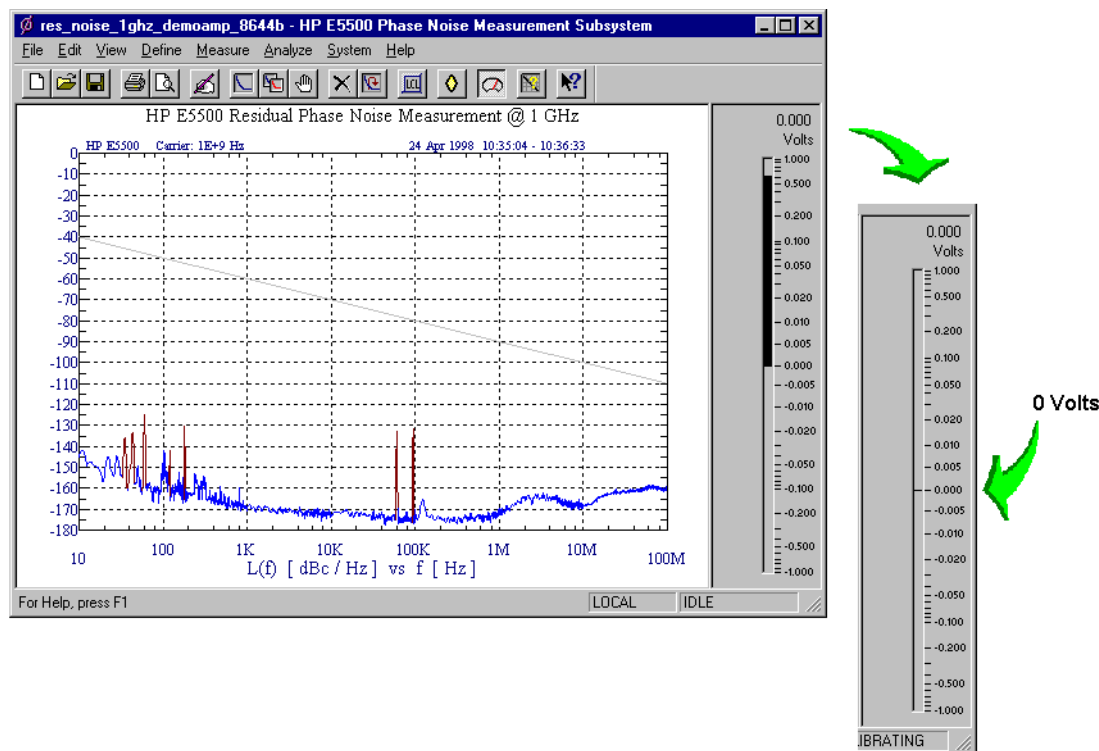

Figure 9-14 Adjust Phase Shifter until Meter Indicates 0 Volts
- 4 The system software will then prompt you to set the phase noise software's meter to quadrature by adjusting the phase shifter until the meter indicates 0 volts, then press Continue. See Figure 9-14.